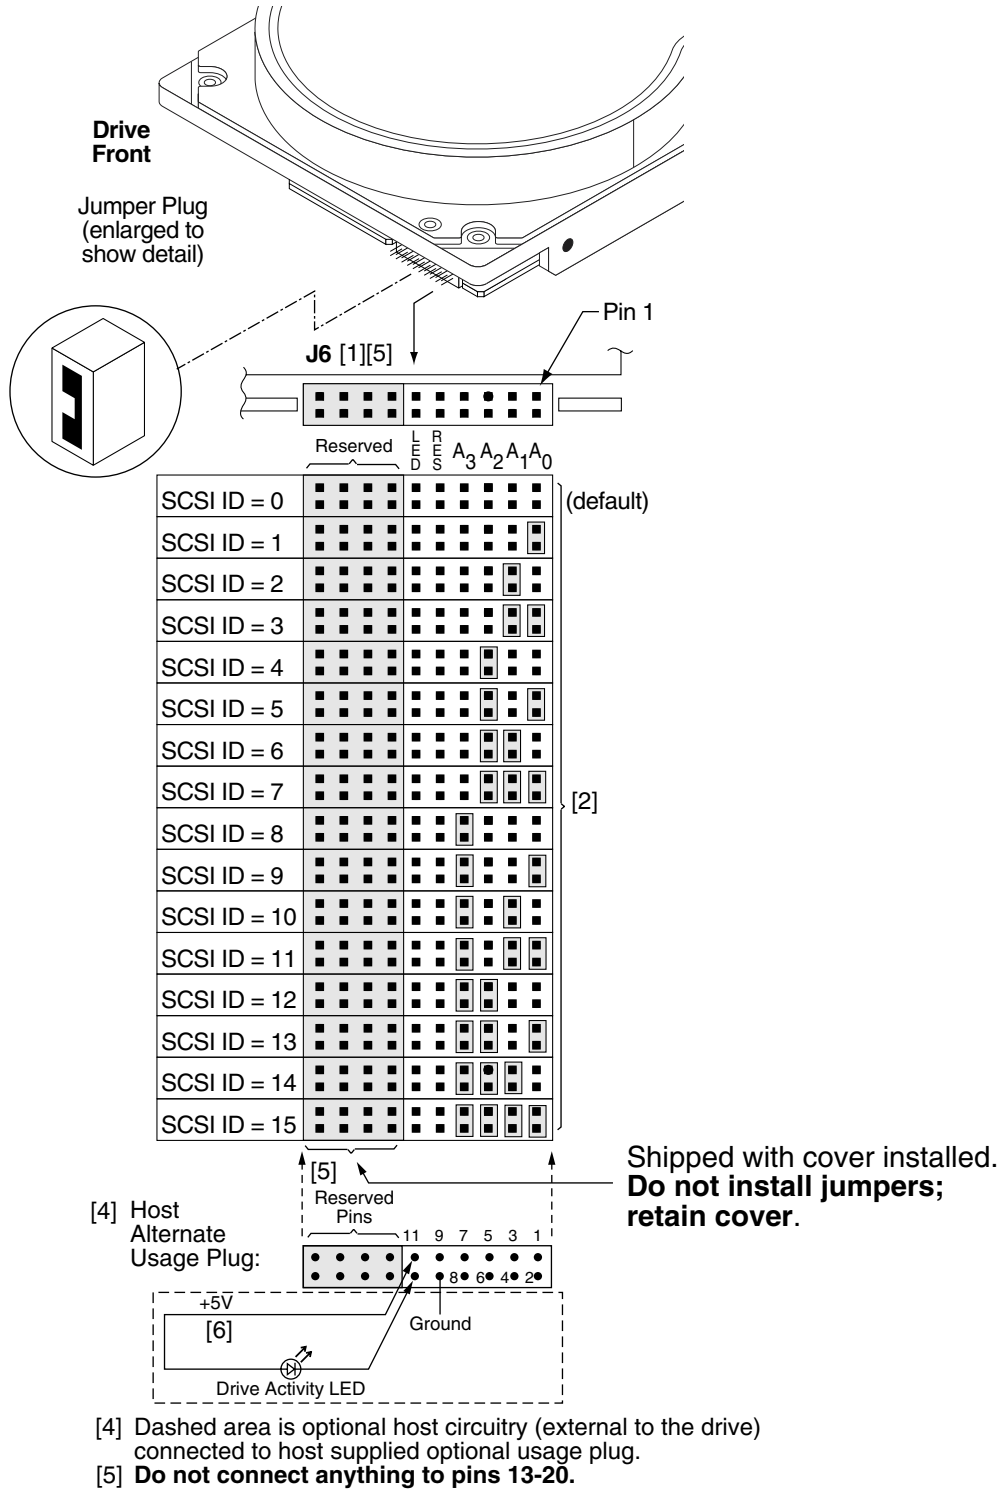
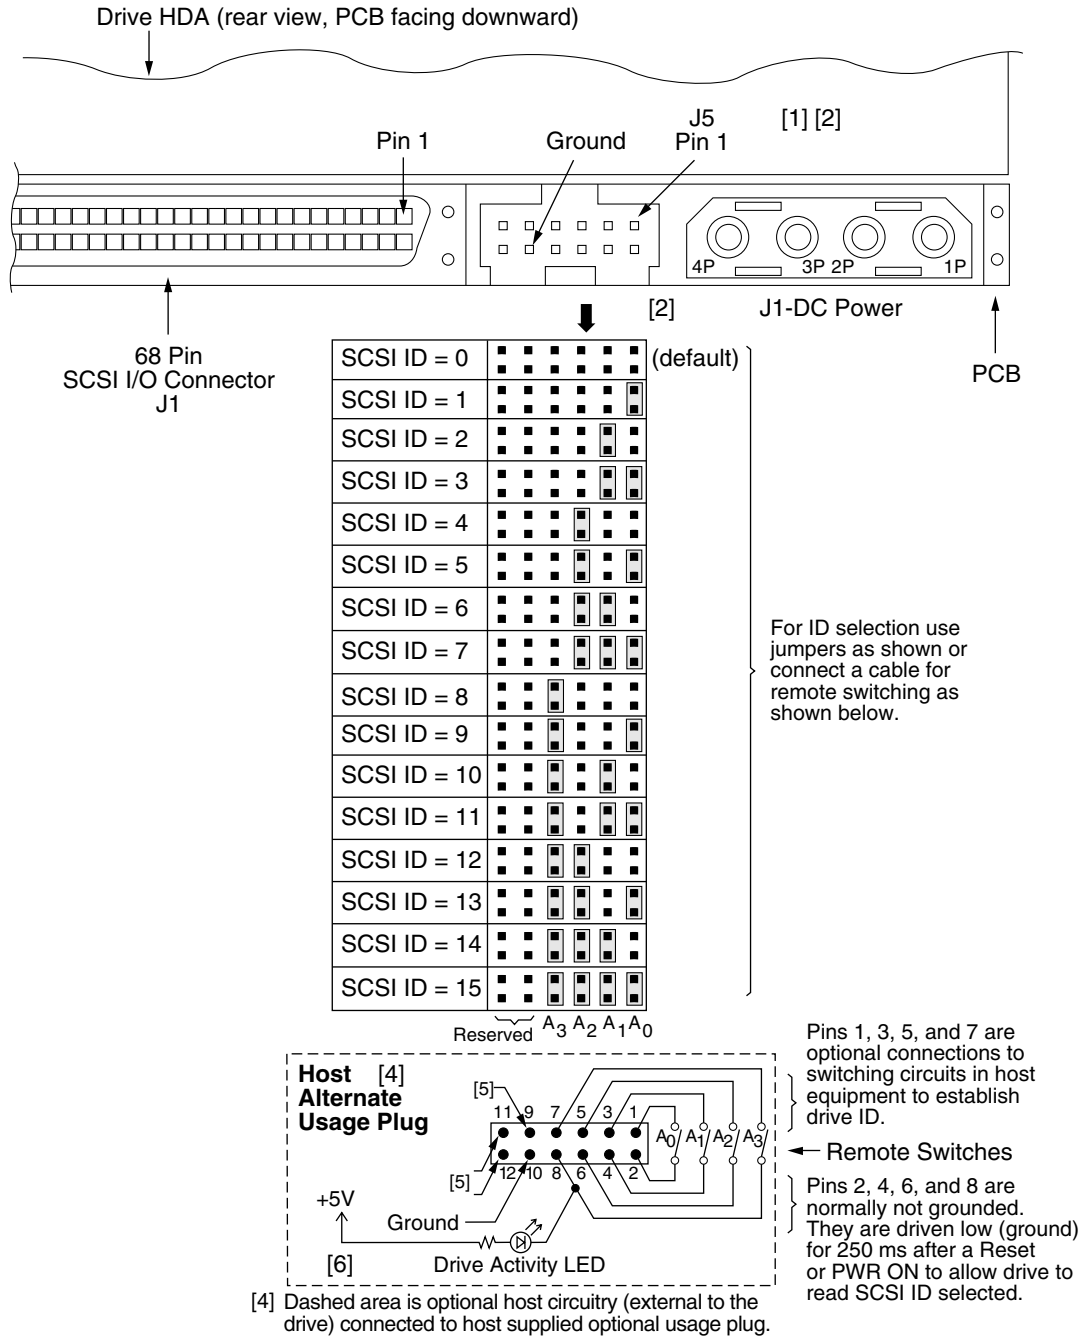
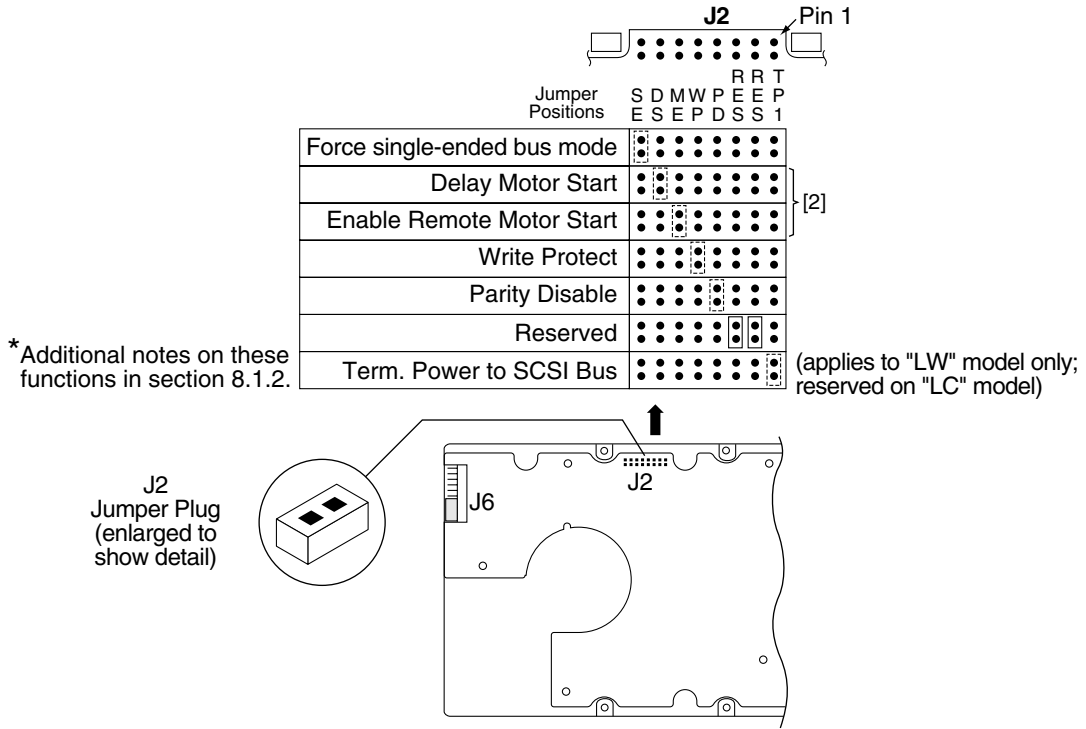

Figure 15. J6 jumper header for LW and LC models
Figure 17. J5 jumper header (on LW and W models only)
Figure 18. J2 option select header (for LW and LC models)
For option jumper locations and definitions refer to Figures 15, 17, and 18. Drive default mode parameters are not normally needed for installation. Refer to Section 9.3.2 for default mode parameters if they are needed.
Figures 15 and 17 show views of the drive ID select jumper connectors. Figure 18 shows the option select jumper connector for all models. Figure 15 shows the drive's J5-Auxiliary jumper connector. Both J5-Auxiliary and J6 have pins for selecting drive ID and for connecting the remote LED cable. Only one or the other should be used, although using both at the same time would not damage the drive. The notes following the figures describe the functions of the various jumper positions on the connectors J2, J5-Auxiliary and J6. See your local sales representative for suggested part number. A bag with the two jumper plug types is shipped with the standard OEM drives.
8.1.1 Notes for figures 15, 16, 17, 18, and 19
[6] Connect an external Drive Activity LED to J6 pins 11 and 12 (see Figure 15), or to J5 pin 8 (see Figure 17) and the drives +5V power source, through an appropriately sized current limiting resistor. The drive provides an internal 150 ohm current limiting resistor for the J6 connection.
1. See Figure 18 for pins used for Termpower.